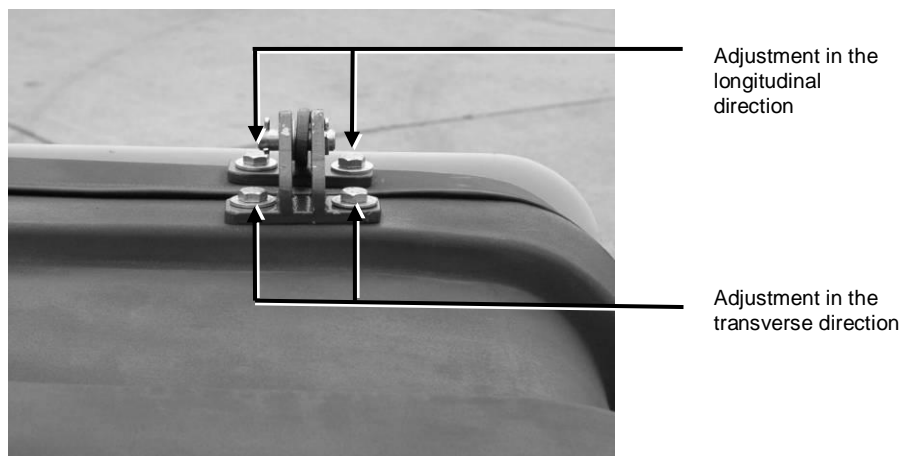

Fig. 67: Cover hinges
3. Loosen the mounting screws of the hinges (see Fig. 67):